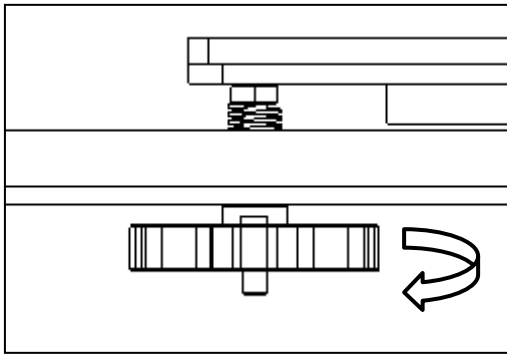

Fig 1
2. Watch the nozzle, tighten the hand nuts under the bed to move down or loosen these nuts to move up the bed **(Fig 1)**, let the nozzle is higher than the bed about 1~2mm.